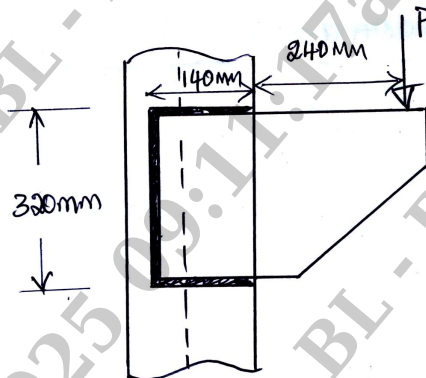

Fig.Q4(b)
- b. Determine the minimum load that can be resisted by the bracket shown in the Fig.Q4(b) by filled weld of size 6 mm for shop weld.